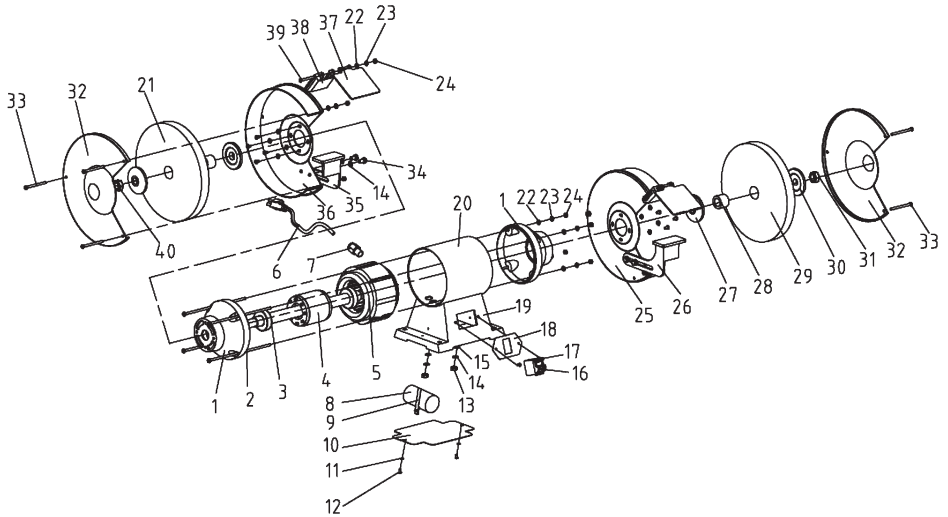

Figure 3
- Step 1:** Make sure the inside wheel mounting washer(#27) is on the spindle(#4) with its concave side facing out as shown in Figure 3.